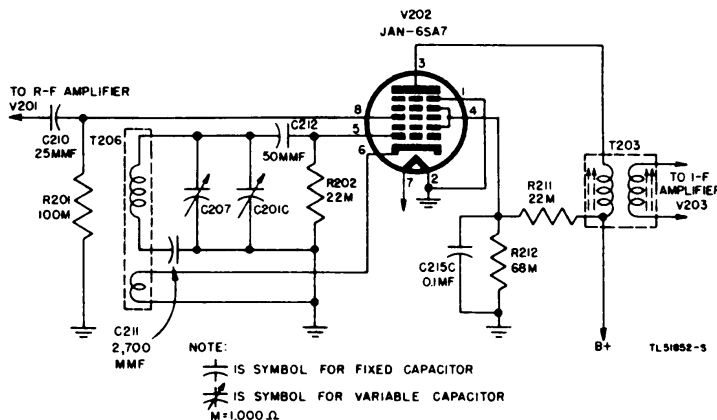

Figure 25. Converter V202, simplified diagram.
60. CONVERTER (fig. 25).
a. The converter stage uses a Tube JAN-6SA7 (V202) for frequency conversion. V202 is a pentagrid converter tube combining an h-f oscillator and a mixer in a single envelope. The h-f oscillator is of the cathode feedback type and uses the first two grids and the cathode of V202. Only half of transformer T206 is shown in figure 25; the other windings are used for the l-f band.